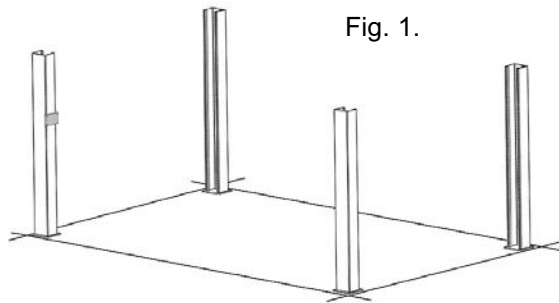

Fig. 1.
1. Place a chalk line on the floor according to the floorplan layout. Pay attention to the power unit location. Locate and stand the columns at their respective locations. **DO NOT BOLT** columns down at this time. Use caution to prevent the columns from falling over. (See Fig. 1.)
1. Locate the POWERSIDE RUNWAY easily identified by the cylinder and sheave roller mounting structures welded on the underside. The powerside runway will be positioned on the side of the lift where the power unit is installed. (See Fig. 1.)